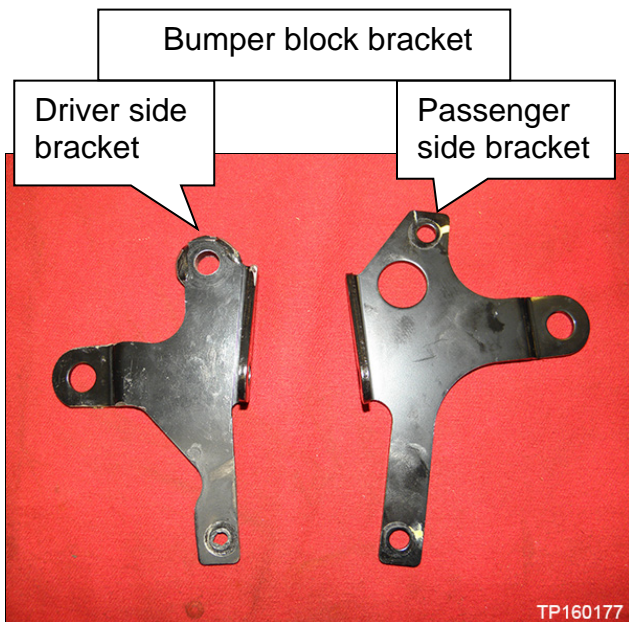

Figure 6
**NOTE:** Left and right side brackets are different (see Figure 6).